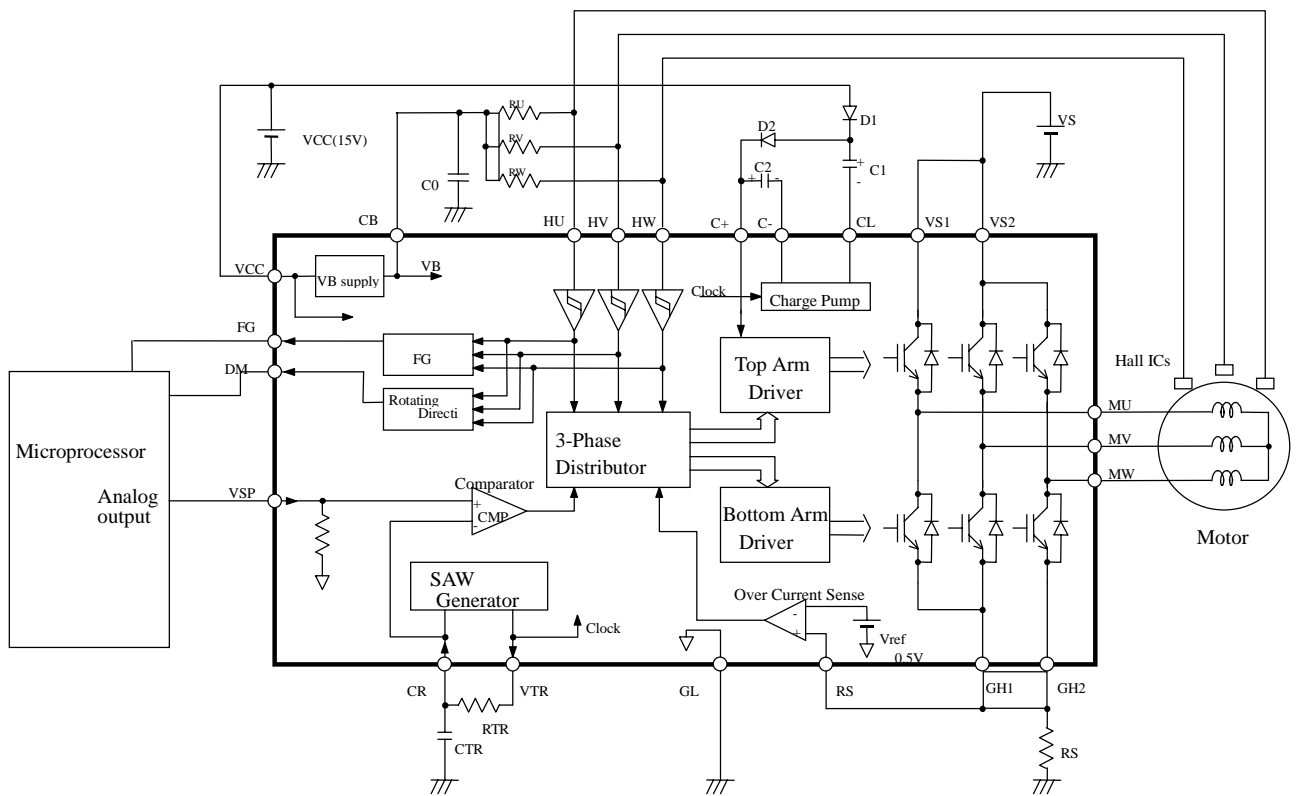
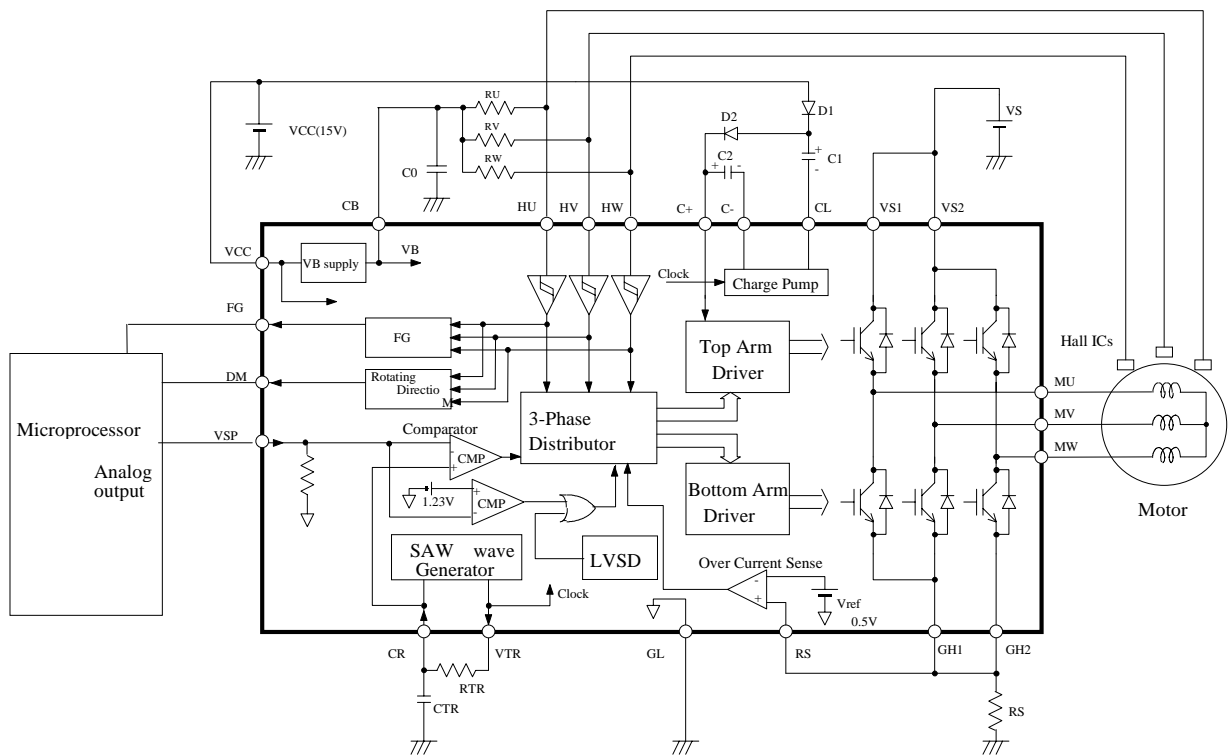

Fig. 1 Block diagram
Fig.2 Block diagram
ECN3021/ECN3022 is a one-chip three-phase bridge inverter IC which has 6 IGBTs in the circuit. Especially, it is very suitable for controlling the speed of three-phase DC brushless motors to which converted AC200-230V power supplies are applied. Fig.1 and Fig.2 shows the internal block diagram for ECN3021 and ECN3022. ECN3021 and ECN3022 have almost the same characteristics. But only ECN3022 has the feature that all the arm output IGBTs can be turned off when the input voltage for Vsp terminal is under 1.23V.
- The charge pump circuit is operated by the clock inside the IC. Looking at Fig. 1, when CL is 0V, this circuit charges C1 capacitor, while the charge comes from V_{CC} via D1. Next, the voltage of CL terminal goes up to V_S and the charge which C1 capacitor had is pumped up to C2 capacitor via D2. By repeating this operation with a frequency which is set up in the triangular wave circuit, the voltage for driving top arms is supplied at C+ terminal.
- Diodes D1, D2 should be connected to these terminals.(Ref. Fig. 1) When using diodes with axial leads, it is recommended to use high speed diodes, like Hitachi diode DFG1C6(600V, 1A, 100ns). High voltage diodes are needed because CL is changed from 0V to V_S .
- Capacitors C1, C2 should be connected to these terminals. (Ref. Fig. 1) Top arm IGBTs are driven by the voltage which is charged in these capacitors. It is recommended that the capacity of the capacitors should be $0.5\mu\text{F} \pm 20\%$ for ECN3021, $1.0\mu\text{F} \pm 20\%$ for ECN3022. When other capacitors are used for them, the voltage(V_{CP}) between C+ and C- should not be under 10V. The stress voltage in the capacitors exceeds V_{CC} because of the circuit operation.